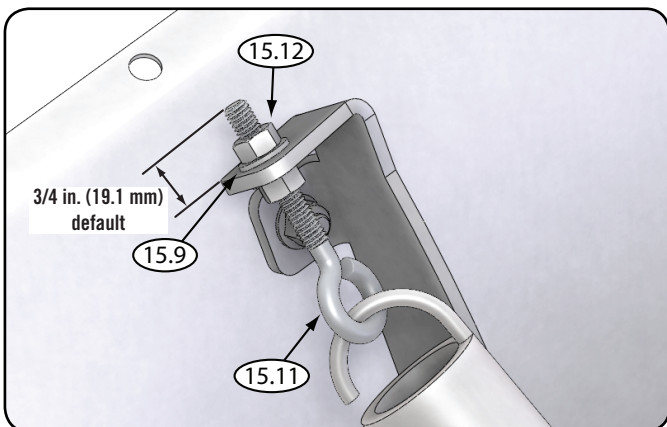

Figure 10 - Spring Adjustment
- Tighten nuts down on eye bolt until desired spring tension is reached. See Figure 10 for default tension.